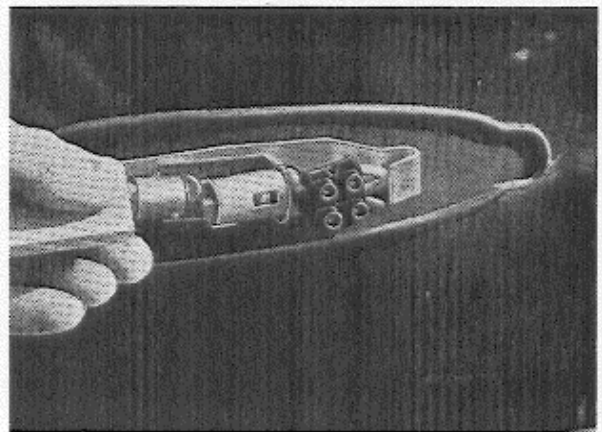

Fig. 21.
2. Remove the faulty bulb and fit the new as shown in fig. 21. There are two types of bulb-holder. The late production bulb-holder only allows the fitting of the bulb in one position.
2. The new bulb is then inserted. Notice that the contacts in the bulb socket are, of different heights so as to obviate the possibility of fitting incorrectly. Do not hold the bulb glass with bare fingers, but use the packing carton. See fig. 21.